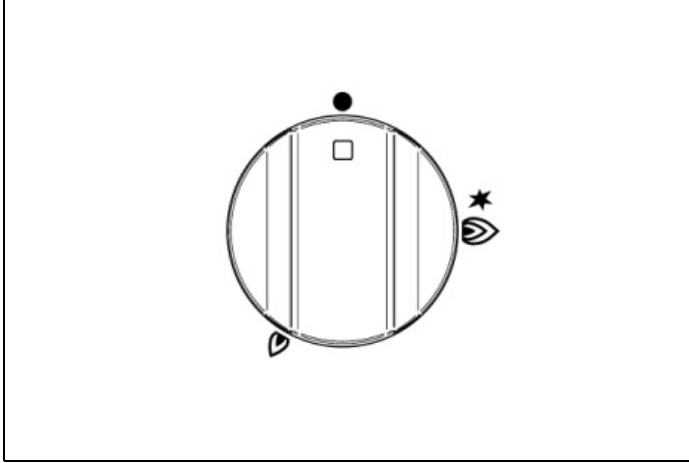

Fig. 16
- To light the burner, press the control knob (Fig. 16 eFig. 17) and turn it counterclockwise to the **MAXIMUM** position (large flame).